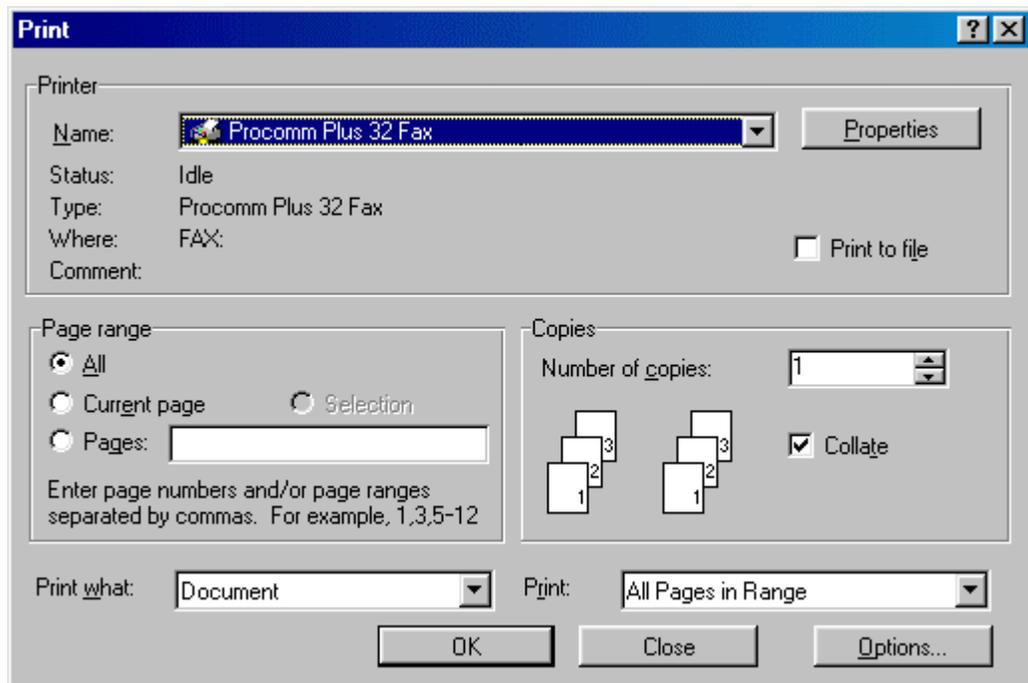

Figure 27 Selecting the ProComm Plus Printer
- On the **File** menu, select **Print**. This will bring up the following screen (see Figure 27).